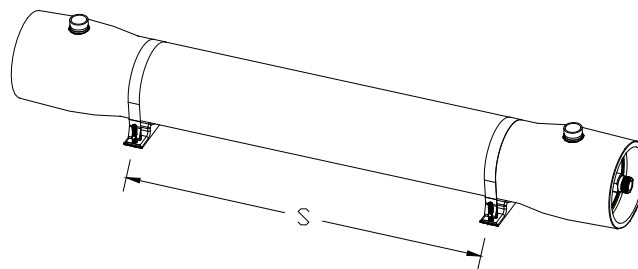
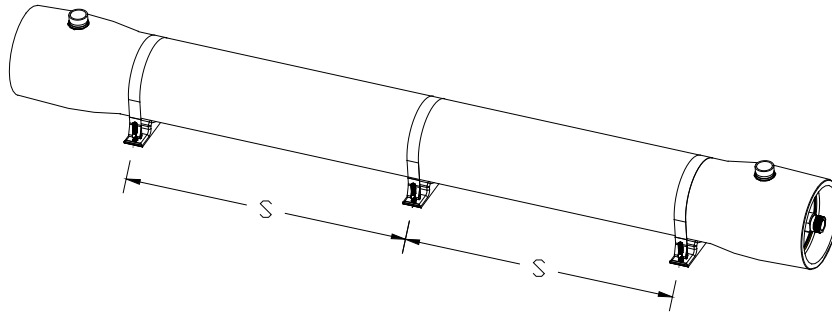

Figure 2
Figure 3
3. Mount vessels on urethane saddles (provided with the vessel) positioned in line with pre-drilled frame holes. For -1 through -3 vessels, holes for the mounting straps should be drilled at approximate center span 'S' (Figure 2). For -4 and -8 vessels, holes for the mounting straps should be drilled at span 'S' from the middle of the vessel and a third saddle, without a strap, should be placed at mid span (Figure 3). These dimensions are shown on the corresponding engineering drawing.